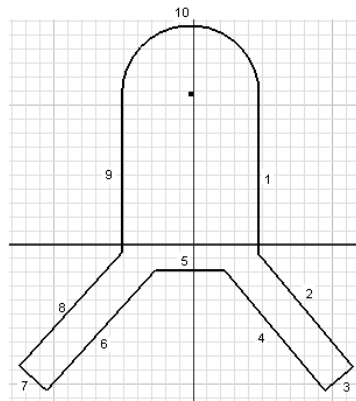

Figure 3-61 Initial sketch with the geometries numbered
1. Choose **Line** from the **Draw** panel of the **Sketch** tab to draw the outer loop, as shown in Figure 3-61. As mentioned earlier, you should draw the inner loop after drawing and dimensioning the outer loop. This is because once the outer loop is dimensioned, you can draw the inner loop by taking the reference of the outer loop.
You can use the option for drawing the arc within the **Line** tool to draw it in the sketch. You can also use the temporary tracking option for drawing this sketch. For your reference, the geometries in the sketch are numbered, see Figure 3-61.